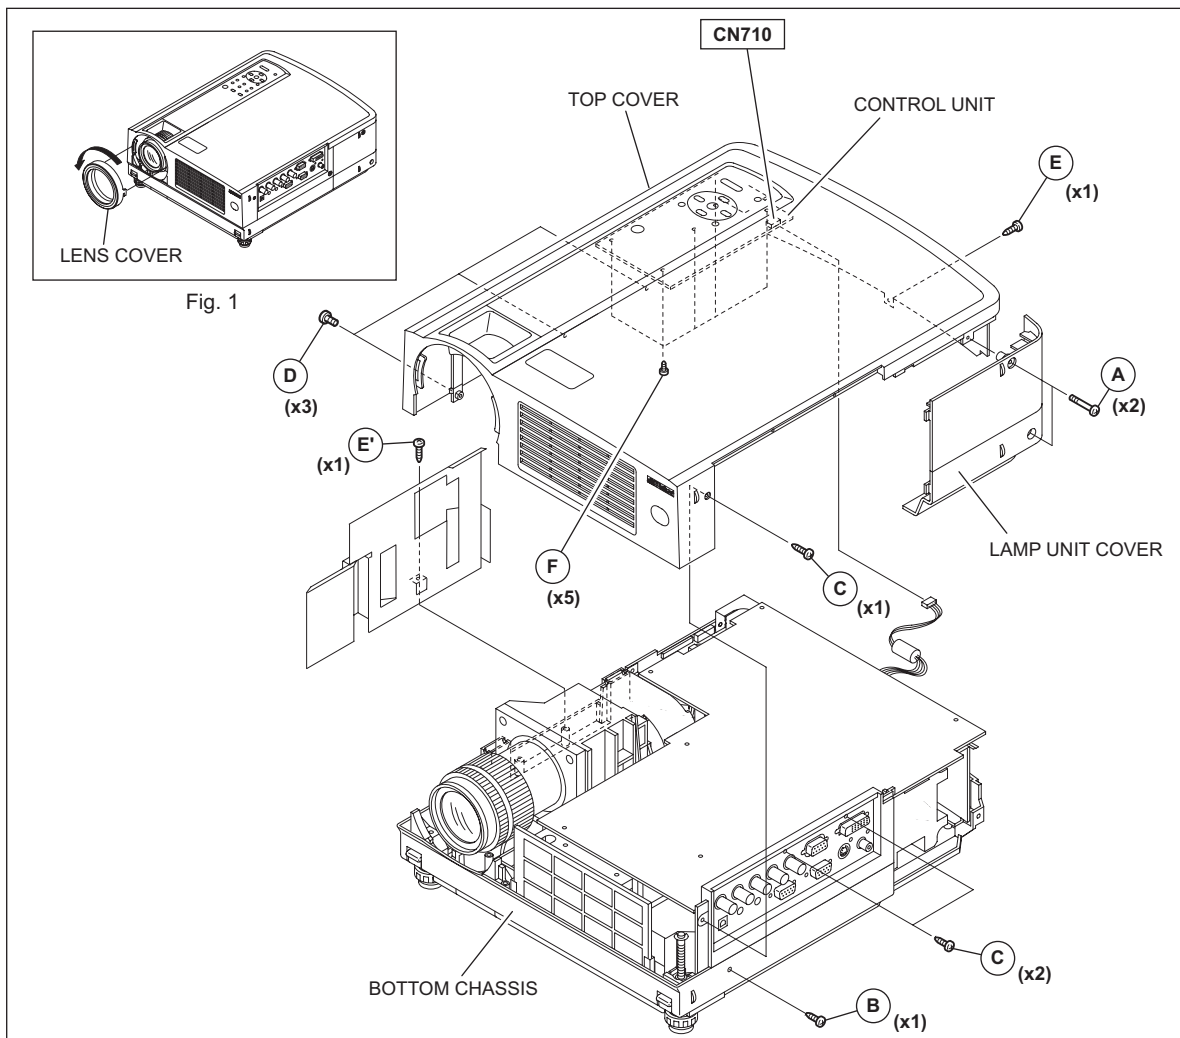

Fig.2
- (1) Loosen the 2 screws marked **A** on the right side of the main frame and pull out the LAMP UNIT COVER toward you. (Fig.2)
- (1) Remove the 1 screw marked **B** and the 2 screws marked **C** on the right side of the main frame. (Fig.2)
- (2) Remove the 3 screws marked **D** on the left side of the main frame. (Fig.2)
- (3) Remove the 1 screw marked **E** on the rear side of the main frame. (Fig.2)
- (4) Remove the harness from the connector **CN701** of the CONTROL UNIT which is secured to the back of the TOP COVER.
- (5) Lift up the TOP COVER to remove it.
- (1) Remove the 1 screw marked **E'** fixing the PROTECT COVER, and lift up the PROTECT COVER to remove it. (Fig.2)
- (1) Remove the 5 screws marked **F** fixing the CONTROL UNIT from the back of the TOP COVER. (Fig.2)
- (2) Remove the CONTROL UNIT. (Fig.2)